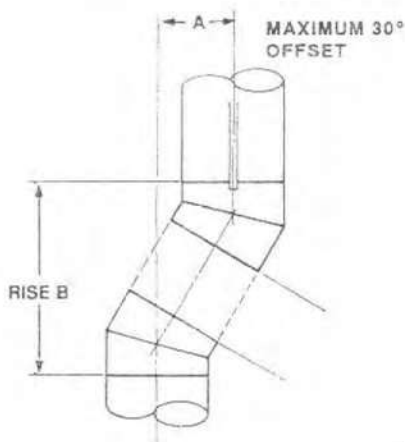

Figure 24
1. To achieve desired offset, you may install combinations of 12", 18", 36" and 48" lengths of double-wall pipe (see Single Offset Chart and Figures 24 and 26).